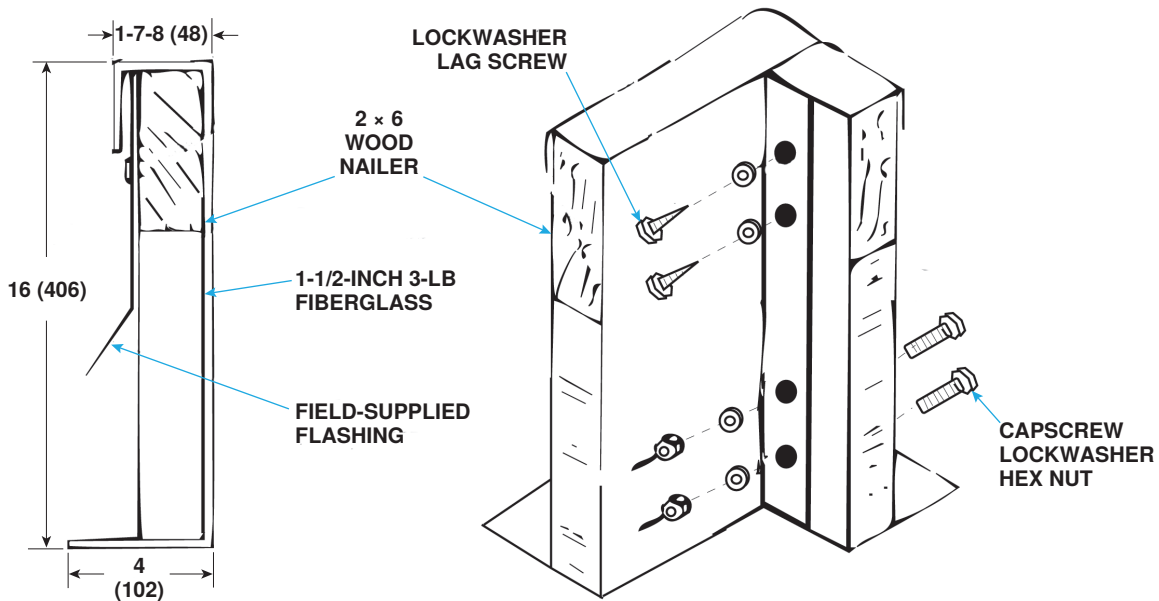

Figure 2. Roof Curb Section and Corner Detail
2. Position and connect end rails and side rails at corners as shown in Figure 2.